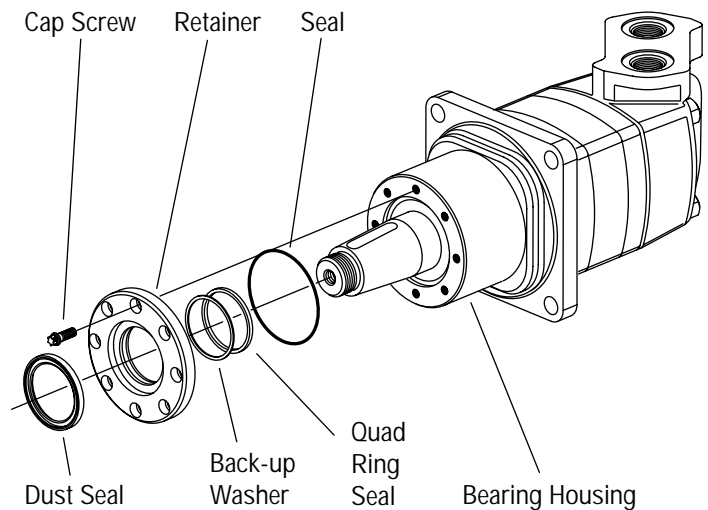

Figure 24
**33** Install case drain plug assembly. Tighten to 36 Nm [320 lb-in]. On wheel motors, a different bearing housing is used, see Fig. 24. Other than this the parts are the same as the standard motor and the same disassembly and reassembly procedures apply.
On wheel motors a different bearing housing is used, see Fig. 24. Other than this the parts are the same as the standard motor and the same disassembly and reassembly procedures apply.